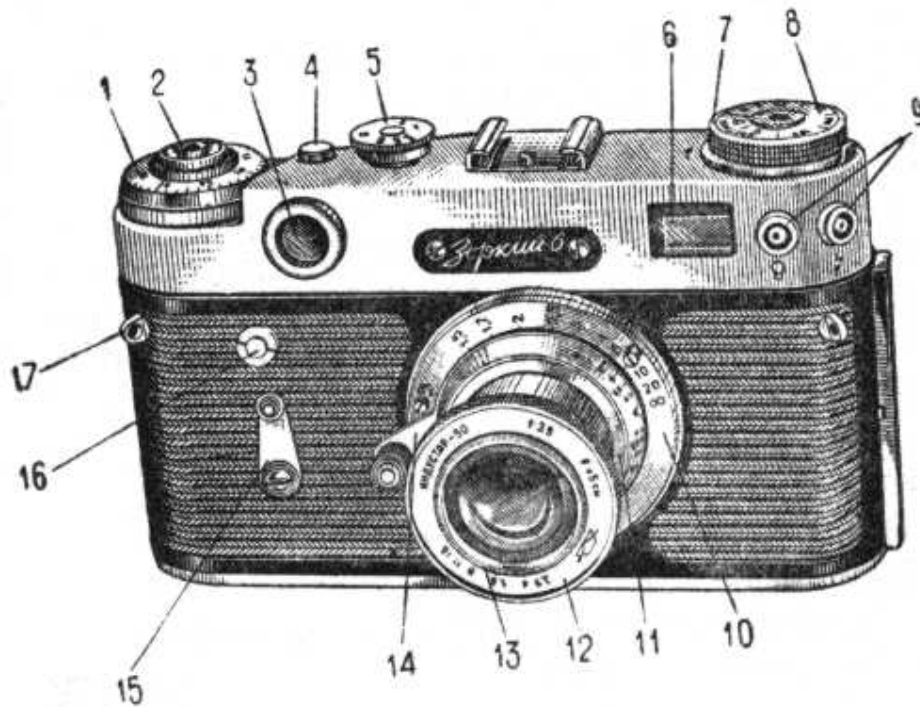

Fig. 1
- (c) lens "Industar-50" (Fig. 1), in sliding and fixed mounts.
### 3. Camera Loading (Figs. 1, 2, 4)
#### **4. Camera Optical System: Lens, Range-Finder, View-Finder (Figs. 1 and 2)**
## **5. Flash Synchronizer (Fig. 1)**
## 7. Taking the Picture (Figs. 1 and 2)